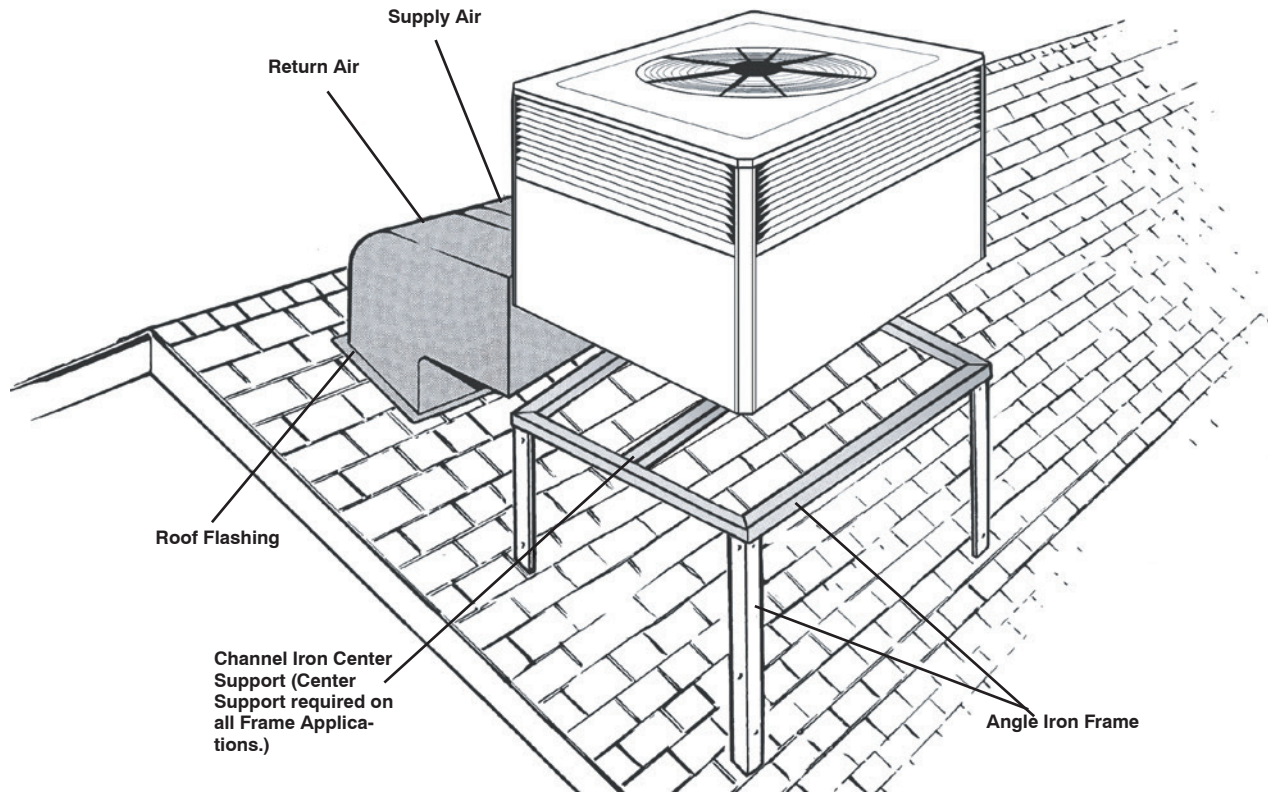

Figure 12. Typical Rooftop Horizontal Airflow Application with Frame
1. Locate and secure the frame to the roof by bolting or welding. Frame must provide adequate center support via a cross member centrally located channel rail. See Figures 12 and 13 on page 15. Vibration isolators should be installed as indicated in Figure 9, adjust as necessary for your frame. The isolators must be placed on base pan, not drip lip. Add flashing as required. Flashing must conform to local building codes.
5. Place the unit on the frame. Refer to Figures 12 or 13 on page 14.
8. Insulate any ductwork outside of the structure with at least two (2) inches of insulation and then weatherproof. There must be a weatherproof seal where the duct enters the structure.